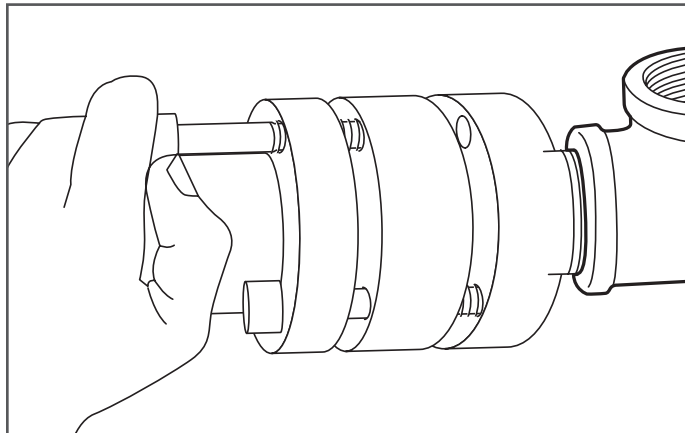

Figure 7-21
22. Apply an anti-galling agent on the cap screws and insert cap screws into the back section of the fitting. Partially tighten cap screws allowing the fitting to swivel. Swivel DoubleTrac® NPT fitting into existing piping (elbow, tee, valve etc.) (Figure 7-21).